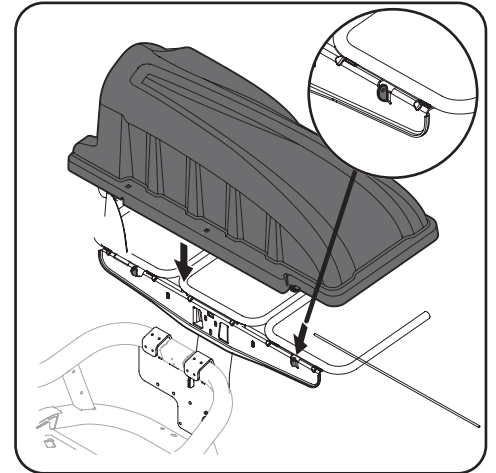

Figure 4-11
5. Install the bagger cover onto the bag support assembly, as seen in Figure 4-11. The plastic cover goes inside the two mounting tabs.